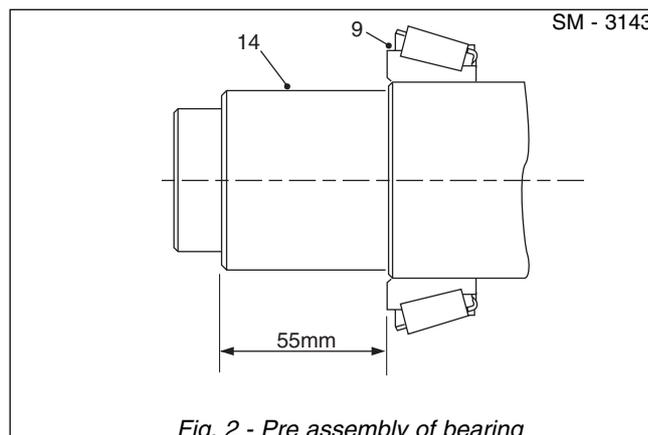

Fig. 2 - Pre assembly of bearing
6. Refer to Fig. 2, Maintain end face of cone approximately 55mm from end of spline face.
7. Insert driveshaft (14) into truck end of pivot casing until bearing assembly cone (9) seats firmly in the bearing assembly cup (8).
8. Apply loctite (3) to new seal (15) and fit over the driveshaft (14) with seal 'Lip' to bearing side. Press seal home using a mandrel.
9. Apply grease to splines of Front yoke (17) and slide onto the drive shaft (14).
10. Fit new 'O'-rings (29 & 51) to Front thrust collar (50) and fit collar over stub end of driveshaft (14) (align mating holes). Fit 2 off front bolts (19).
11. Tighten Front bolts (19) ; alternately 1/4 - 1/2 turns, drawing driveshaft (14) hard against the inner face of Front thrust collar (50). Shaft will be visible through inspection hole on the collar.
12. Lock Front yoke (17) from rotation by a suitable method / bar acting on the ground. Torque front bolts (19) to 54Nm/39 lbf ft.
13. Using special mandrel (15270104) home locking plate (16) onto Bolts (19). Remove the clamping bar.
14. Slide Rear bearing assembly cone (9) onto rear end of drive shaft (14) until it seats in bearing assembly cup (8).
15. Position clamping bar assembly and screw central bolt hard against bolts (19) of front thrust collar (50), enabling body end bearing to be fully seated home.